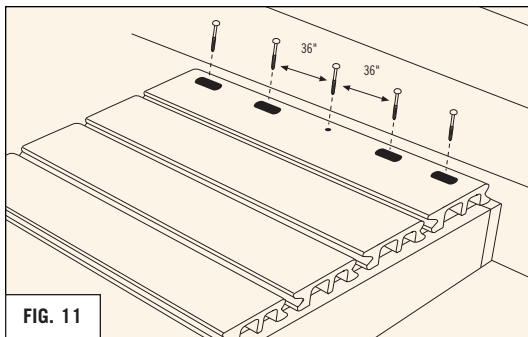

FIG. 11
- In the event you are unable to fit a final row of clips against your substructure pre-drill and screw deck board into lumber from top surface. Attach the deck board with screws spaced 36" apart. To avoid complications from expansion/contraction slot all holes, except the center hole. (REFER TO FIG. 11)